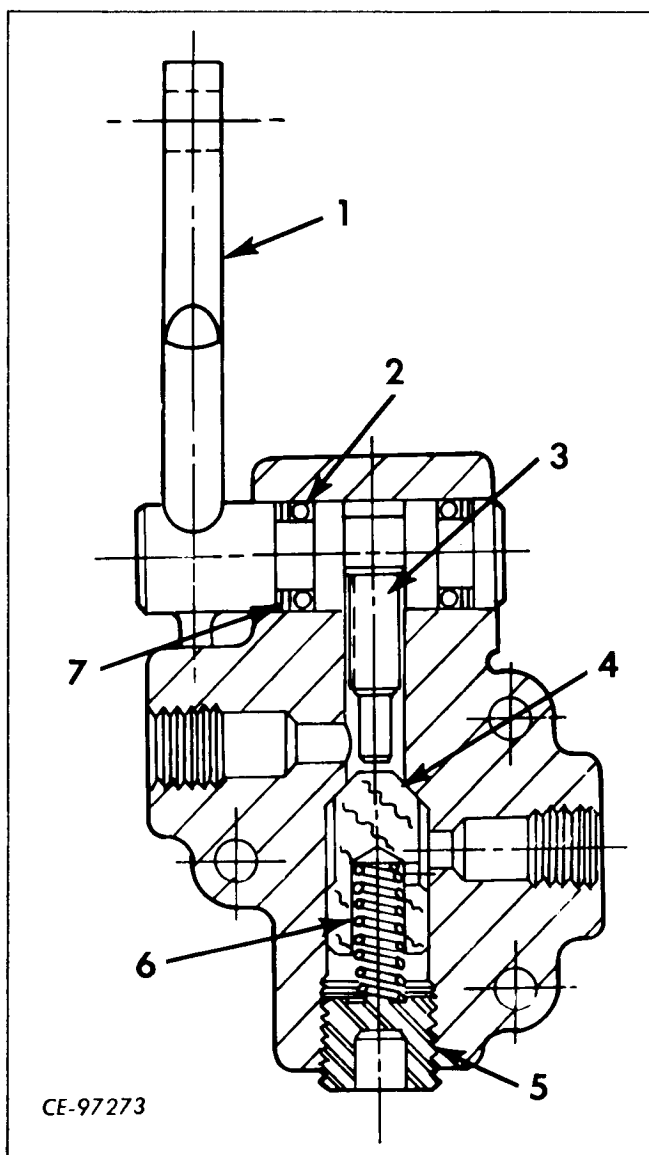

Figure 13-14
Legend for Figure 13-14
Remove plug (5, Fig. 13-14) from base of housing. Remove spring (6), poppet (4) and cam follower (3) from valve bore.
Install new back-up washers (7, Fig. 13-14) and "O" rings (2) in groove in lever shaft. Be sure "O" rings are not rolled or twisted.